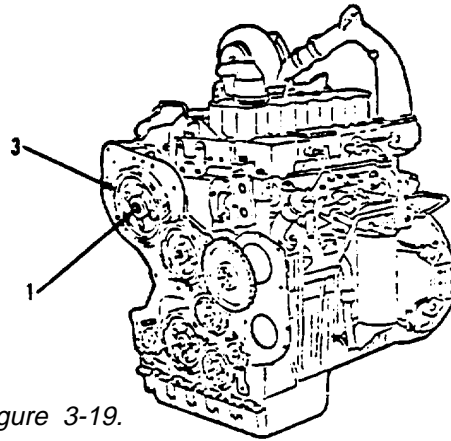

Figure 3-19.
Before installing gear (3, Figure 3-19), No. 1 piston must be at top center (TC) of compression. Perform steps 10 through 25 to insure proper timing.